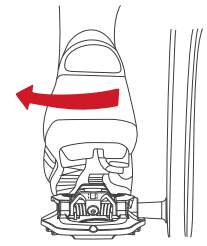

Figure 6. Twist laterally to disengage
- To disengage the shoe from the pedal, twist your heel laterally away from the centerline of the bike (Figure 6).